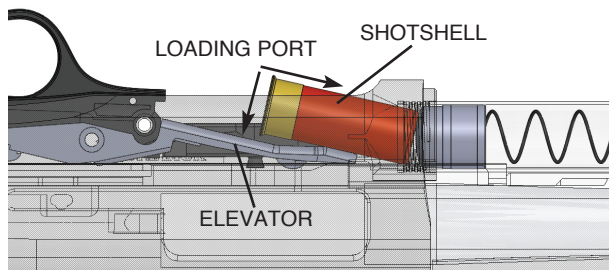

FIG.OA3
1. Carefully push the Shotshell into the Loading Port, depressing the Elevator FIG.OA3. This will expose the Magazine Tube opening within the Receiver.